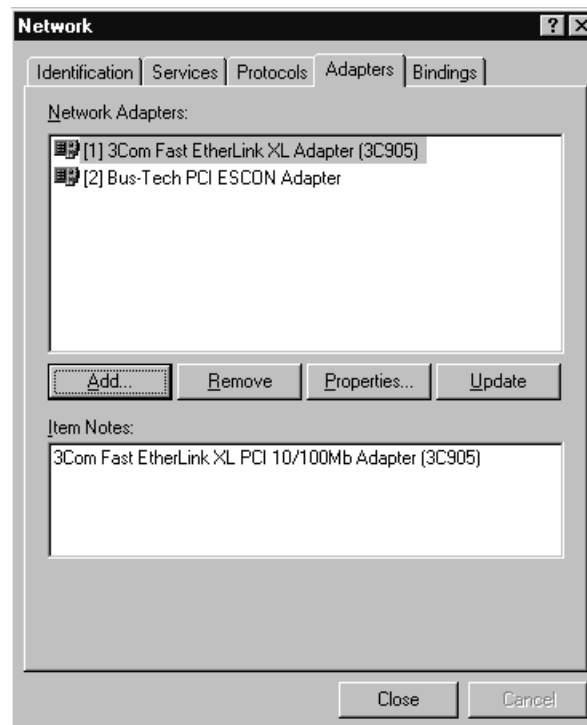

Figure 3-11. Network Settings Showing PBSA
7. As shown in Figure 3-11, the adapter should now be listed in the **Network Adapters** box. Clicking **Close** will cause the system to configure the network and prompt you to restart the system.